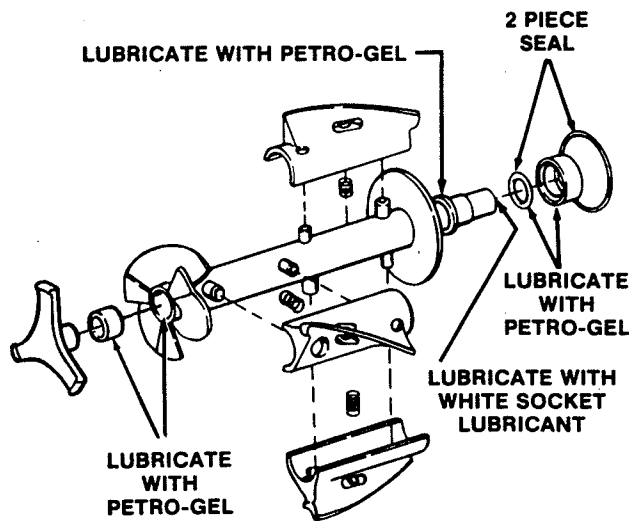

Figure 25. Exploded View of Auger
- D. Screw the springs onto the studs in plastic flights. **Springs must be screws into the flights completely** to provide proper tension (Fig. 25).